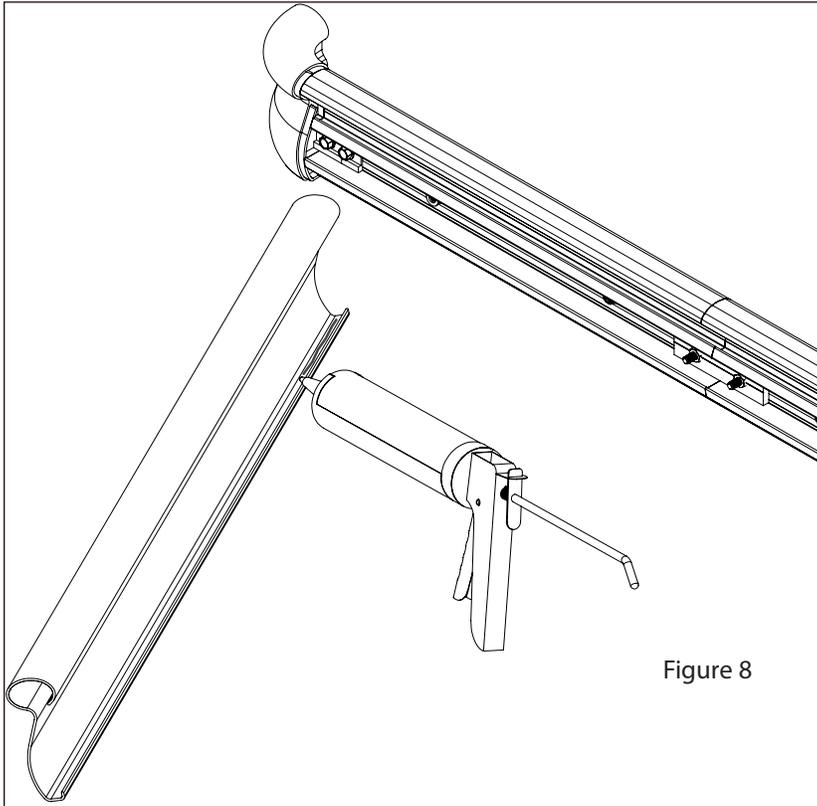

Figure 8
9. Cut the vinyl cover to the distance between the returns and corners. (Note: Trim factory edges square before installation) Lay a bead of pick proof sealant on the bottom lip of the vinyl cover. (see figure 8).